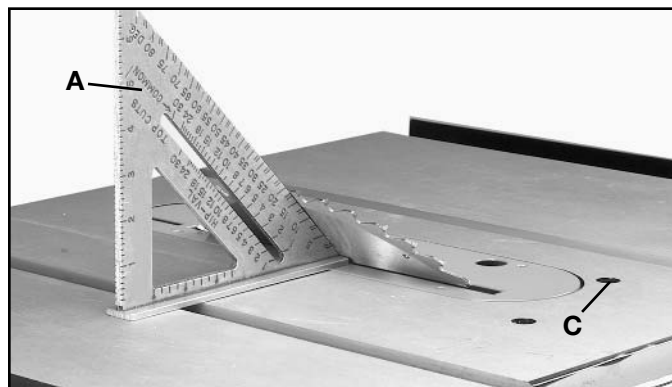

Fig. 21
7. Place a square (A) Fig. 21, on the table with one end of the square against the blade as shown, and check to see if the blade is at 45 degrees to the table. If it is not, loosen screw (C) a few turns and move the blade tilting mechanism until the blade is at 45 degrees to the table. Then tighten blade tilting lock handle and tighten screw (C) until it bottoms.